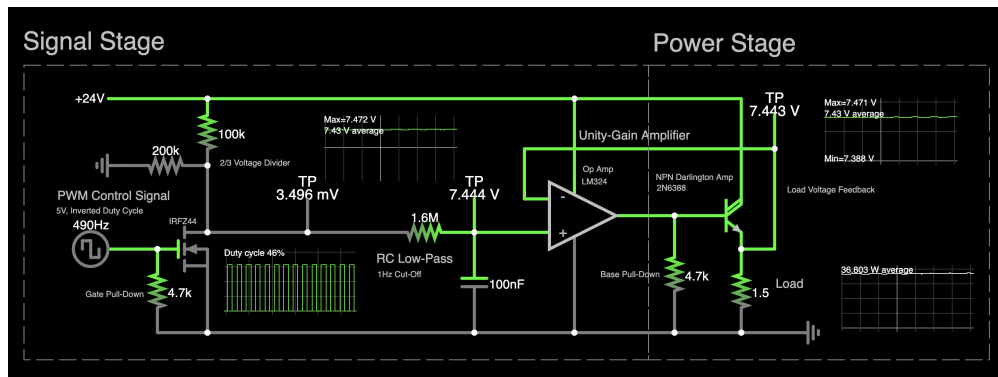

Figure 2: Peltier driver circuit simulation (live version: [4])
- *Peltier Driver Circuit*: Controls magnitude and direction of Peltier device heat pump via a **dimnable voltage source** and **MOSFET H-bridge**, respectively. See Figure 2.